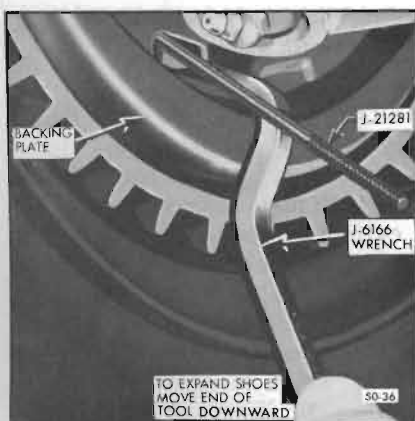

Figure 50-36—Adjusting Right Front Brake Shoes
1. Remove adjusting hole cover from brake backing plate. Install J-21281 through adjusting hole to move actuator off adjusting screw. Use J-6166 to turn brake adjusting screw, expand brake shoes at each wheel until the wheel can just be turned by hand. Moving protruding end of tool downward expands the shoes. See Figure 50-36. The drag should be equal at all wheels.
**NOTE:** It may be necessary to back off the brake shoe adjustment before the brake drums can be removed. To back off shoe adjustment, rotate shoe adjusting screw upward. See Figure 50-36.